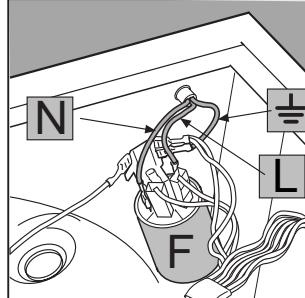

Fig. 4
- 3.** Disconnect the wires from the radio interference suppressor **F** [fig. 4] noting as to their position (**Blue=N** wire; **Brown=L** wire) leaving the earth wire until last **±**. *N.B.: letters L, N and the*